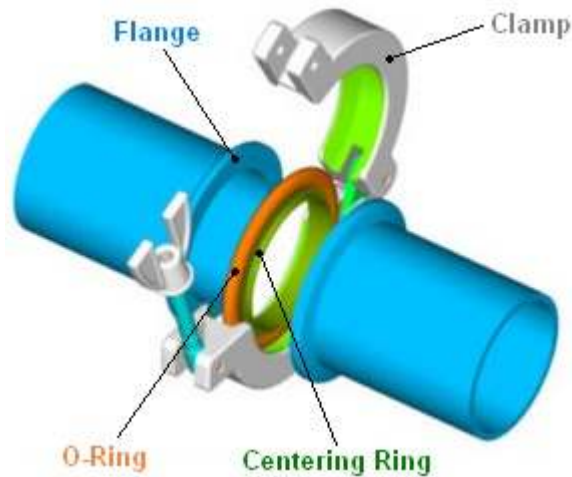

Figure 2
- 3 - Identify the pump exhaust and remove the NW 25 clamp and blanking cap. Leave the NW25 centering O-ring in place. Place the NW25 to 1/2" NPT adapter on the NW25 centering O-ring and use the NW25 clamp to attach the adapter to the pump exhaust. The centering O-ring is clamped between the flanges as shown in Figure 2. Screw the exhaust filter in the adapter with the 1/2" NPT thread.
3 - Mount the 3-way ball valve on the conical adapter using a NW16 centering O-ring and a NW16 clamp. The centering O-ring is clamped between the flanges as shown in Figure 2. Position the ball in-line with the pump so that the gray handle point in the direction of the coater which will be pumped.